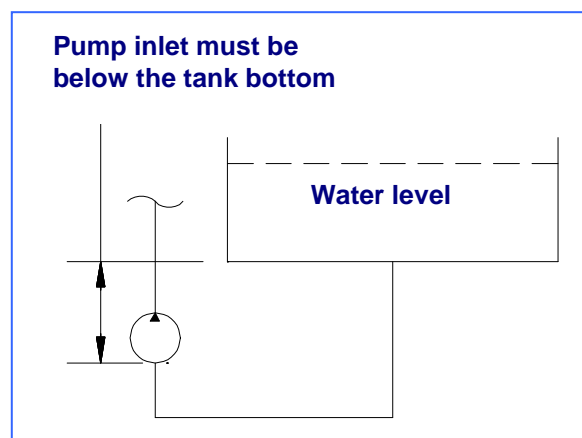

Figure 4.4 – Gravity Feeding Source
- Gravity feeding water source (See Figure 4.4). In this case the electric pump is not required. Use a hose with a diameter of at least 1-1/4" to connect the water tank to the power unit.
Ensure that the water source can reliably deliver the maximum pump flow of 20 GPM (75 LPM). A minimum flow of 25 GPM (95 LPM) is recommended to ensure that the pump is not starved of water. If connecting to a tank, locate the bottom of the tank above the water inlet connection on the power unit to ensure a flooded suction line (See Figure 4.4).